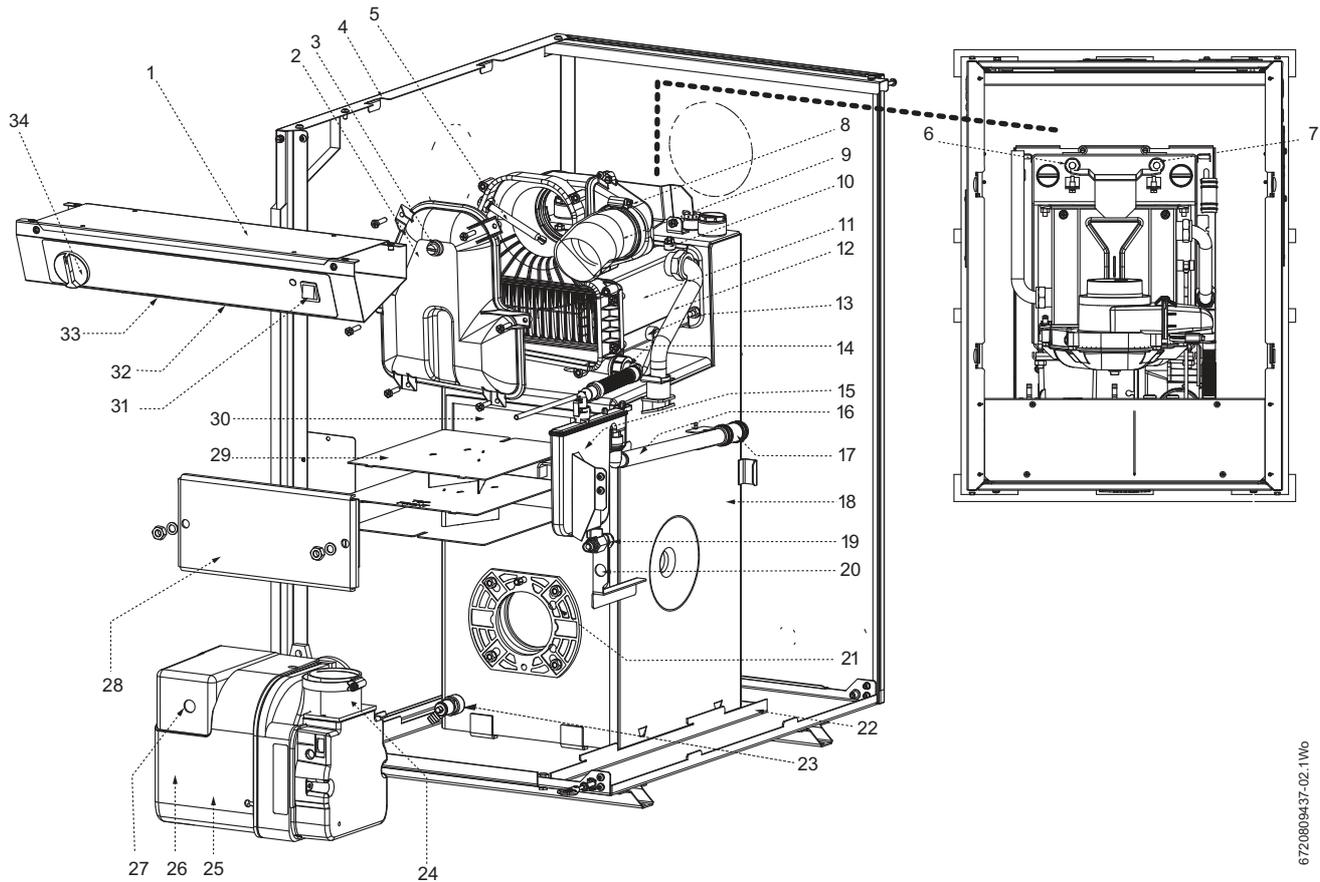

Fig. 2 18/25 Appliance shown
**Figure 2 does not include the top, front, right hand side panel and cross brace.**